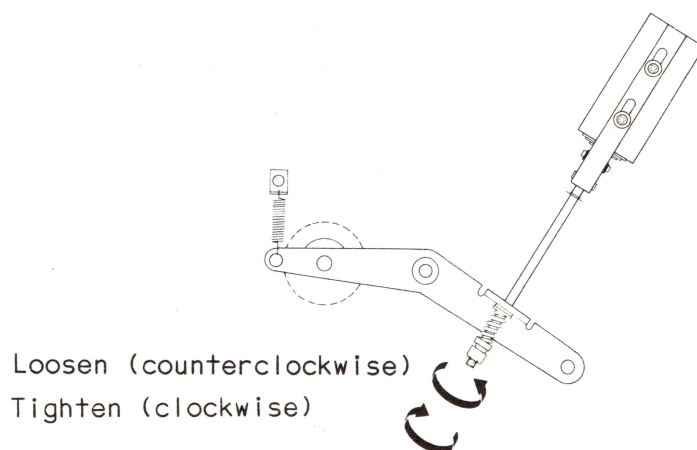

Figure 6-5 Pinch Roller Pressure Adjustment
This force is adjusted by means of the nut shown in Figure 6-5 .
6. If a proper scale reading was not obtained in step 5, loosen the locknut and adjust the pressure nut as shown in Figure 6-5 .